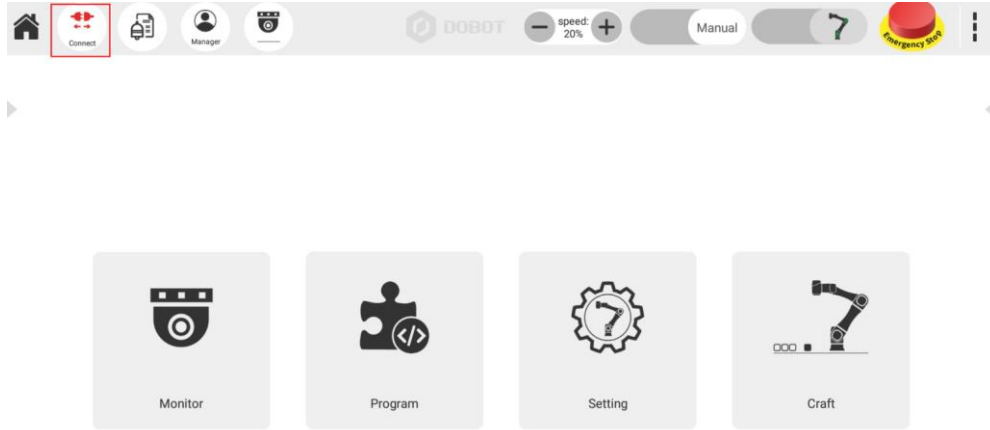

Figure 4.8 Connecting controller and APP
**Step 3** Open APP and click **Connect** to connect controller and APP. As shown in Figure 4.8.